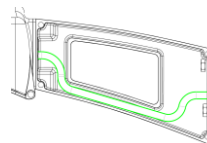

Figure 3
7. Feed the power cable through the middle hole (see Figure 3) and connect the power leads with the included wire nuts as seen below. Black to Black(Hot),White to White(Neutral), Green to Green(Ground).